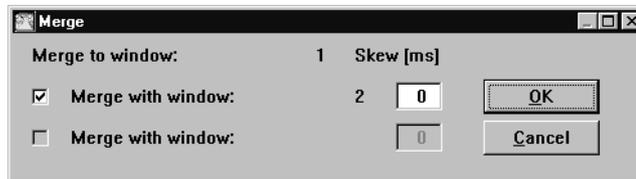

Fig. 38 The merge dialogue box.
- 2 **The Merge dialogue box is presented, see Fig. 38.**